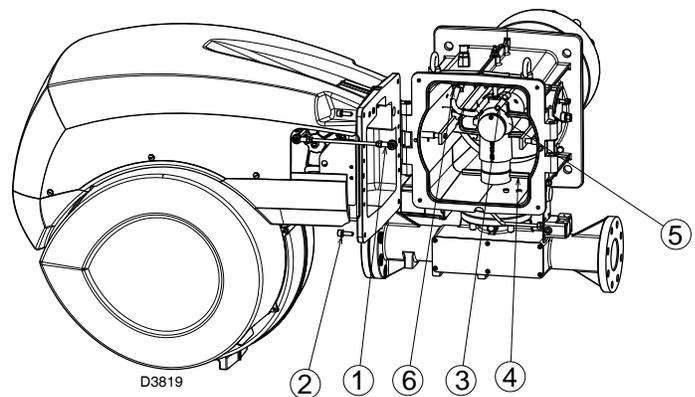

Fig. 14
- Open burner at hinge as illustrated in Fig. 14 after releasing the tie rod of the head movement lever 1) and removing the 4 fastening screws 2).